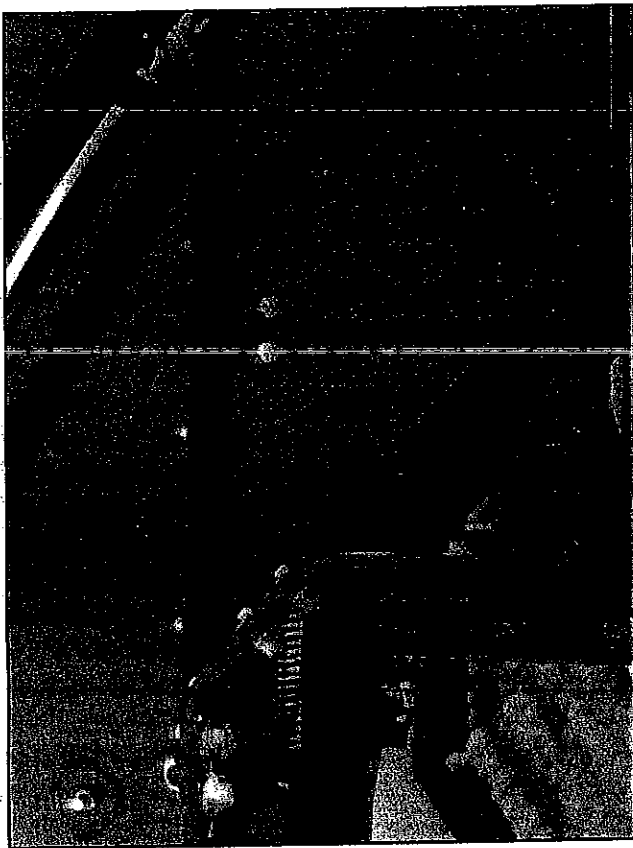

FIGURE 51 - UPPER RETAINER INSTALLATION
Insert two (2) 5/8" x 2-1/2" hex bolts and two (2) 5/8" flat washers through angle on track and the retainer attaching brackets. Push retainer as close to the unloading elevator as possible and secure with two (2) 5/8" nuts, two (2) 5/8" lock washers and two (2) 5/8" flat washers. The retainer will be adjusted later (see Figure 51, page 34).